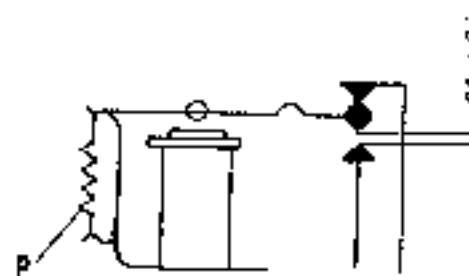

Fig. 79.
2. Release the armature which is lifted by the pull of spring P, and its contact touches the upper contact. By bending the top contact holder adjust the gap between the centre contact (armature contact) and the bottom contact to 0.2 to 0.4 mm (Fig. 79).